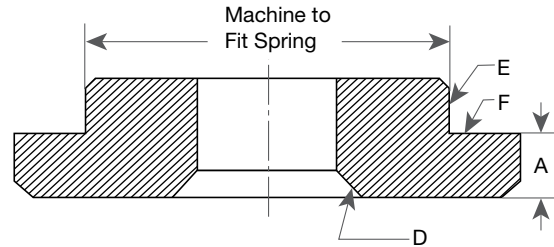

Figure 43: Lower Spring Washer F, G, and H Valves
1. Secure the eductor tube (40) in the base (1) by expanding or swaging into the hole provided. The upper end of the eductor tube should project above the guide surface of the base approximately .125" (3.18 mm) and the lower end should point directly and squarely toward the valve outlet. When the valve is assembled, the hole at the outer edge of the guide flange must fit loosely around the projection of the eductor tube.
2. For F, G and H orifice valves only, machine the new lower spring washer (17) (see Figure 43 and Table 21).
Note: When indicated at surfaces D and E (see Figure 43), run out at surface F is not to exceed .005" (.127 mm) full indicator reading.
Note: When indicated at surfaces D and E (see Figure 43), run out at surface F is not to exceed .005" (.13 mm) full indicator reading.